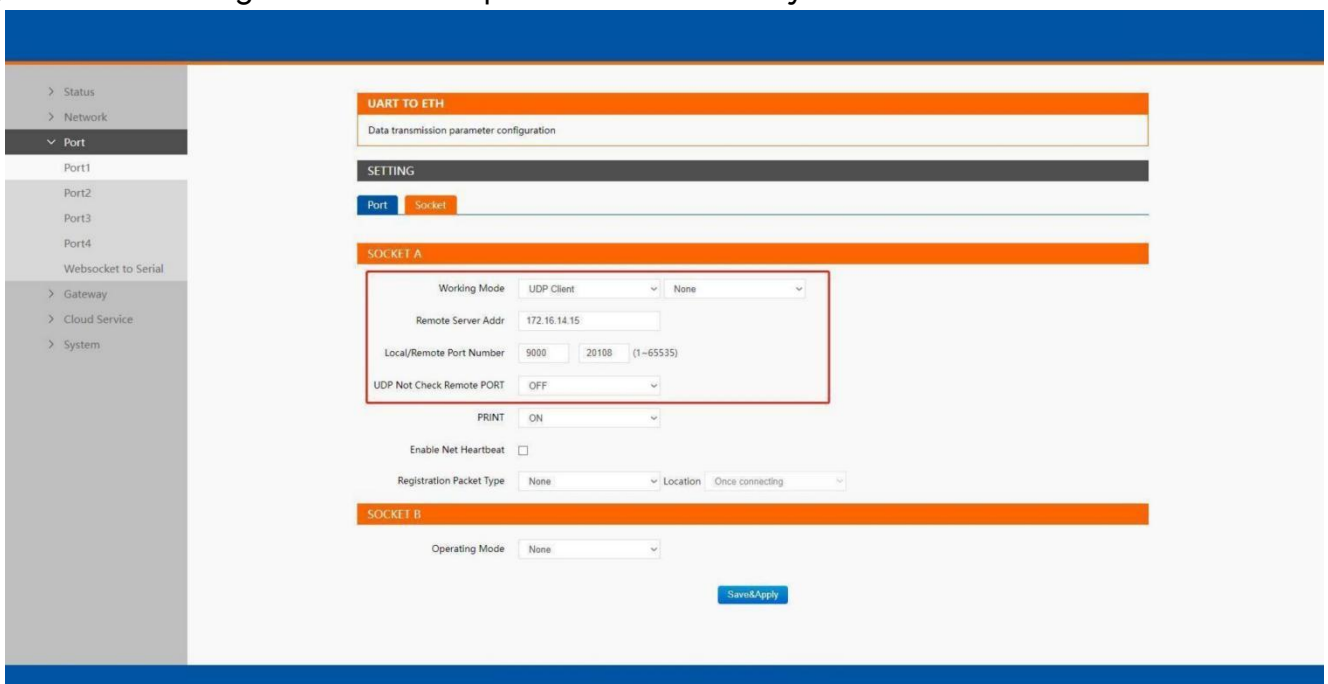

Fig.41 UDP client work mode
When the working mode of the device is UDP client, the remote device must also work in UDP mode. C104 supports remote IP address and port verification. After verification is enabled(OFF), the C104 only communicates with the destination port of the destination IP address. If the data is not from this channel, the C104 will discard the data. If verification is disabled(ON), C104 does not filter the data of the destination IP address and destination port. Fig.41 shows an example of configuration setting for UDP Client mode under the Port1 socket page. You can configure other serial ports in the same way.
1. Click on the “Port1” tab on the menu frame on the left side of Web UI to go to Port1 page as shown in Fig.41.